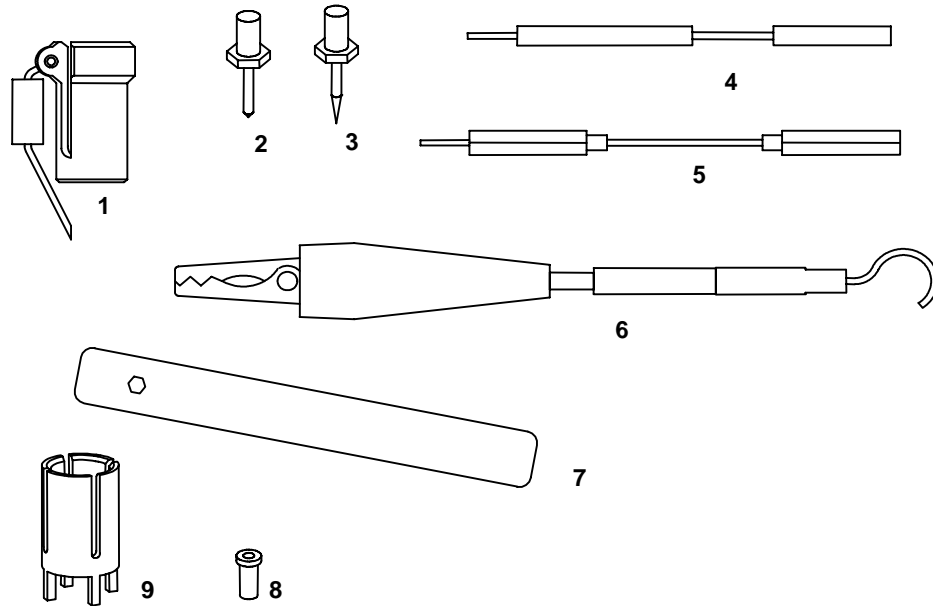
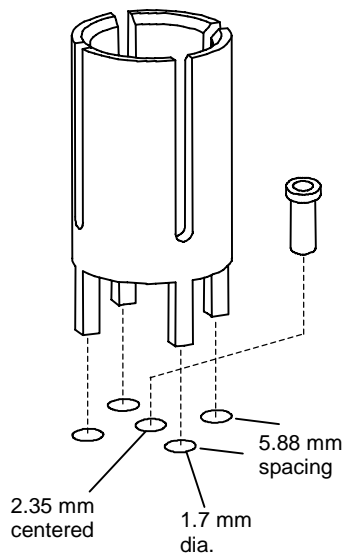

Figure 5. Standard Probe Accessories
Figure 6. Probe Ground Socket and Single Contact Socket for PC Board Testing
The standard probe replacement tip (labeled “2” in Figure 5) for general applications is made up of a material that will bend before breaking. The sharp probe tip (labeled “3” in Figure 6) is made of a harder material, and can be used to penetrate hard coatings.
Do not solder the probe tip into circuitry. Excessive heat can cause damage to the probe tip and to the circuitry inside the probe. If soldering is necessary, use the single contact socket and probe ground socket (8 and 9 in Figure 5).
The probe socket is a direct fit to the shield of the AP022 probe. This socket (9), along with the single contact socket (8), is used in probing a PC board. The combination provides the shortest lead length for probing PC board circuits. See figure 6 for mounting details.